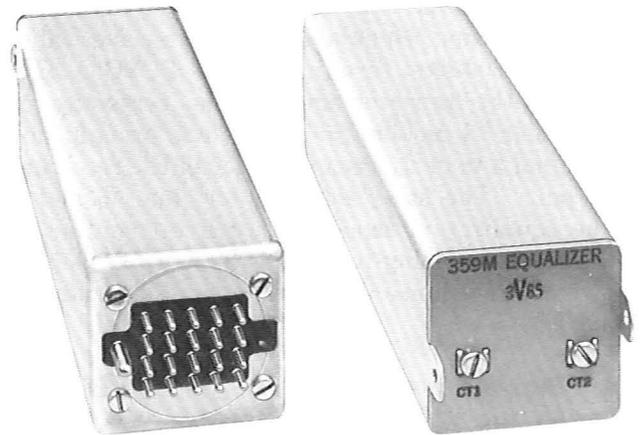

Fig. 1—359M Equalizer
2.01 The 359M equalizer (Fig. 1) is a plug-in unit equipped with a 20-pin connector plug. It is designed to be plugged directly into the equalizer connector socket of a repeater mounting shelf.